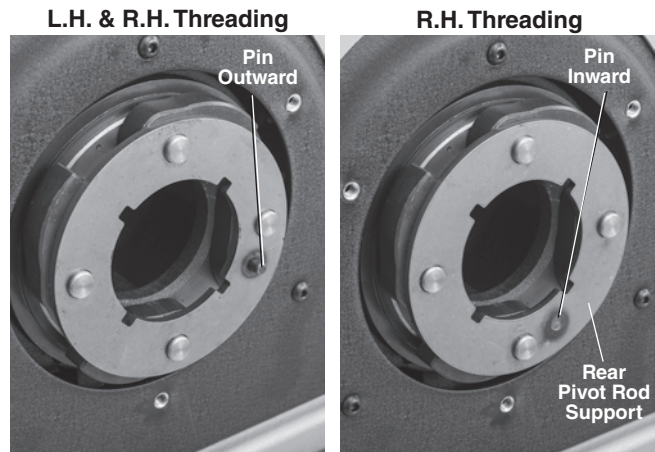

Figure 25B – Rear Pivot Rod Support - Pin Placement
- Remove E-clips and rear pivot rod support (Figure 25B).
- Position the rear pivot rod support so that pin faces outward and reinstall (Figure 25B).
- To convert back to Right Hand threading only, turn over the rear pivot rod support so that pin faces inward and reinstall (Figure 25B).